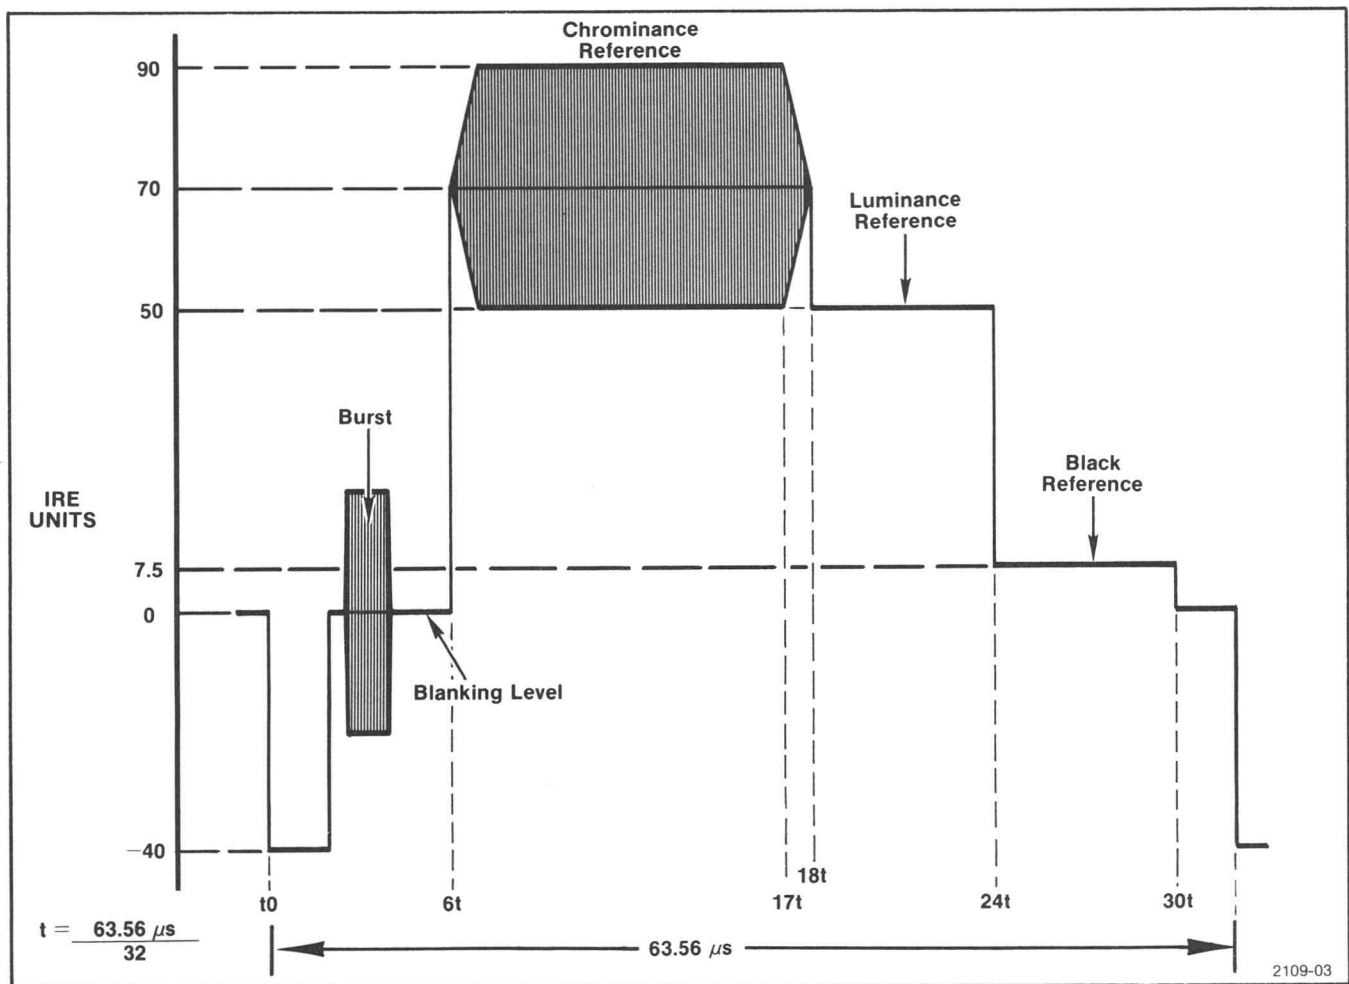

Fig. 4-5. The Vertical Interval Reference Signal.
- b. Check—Refer to Fig. 4-5 for timing details.